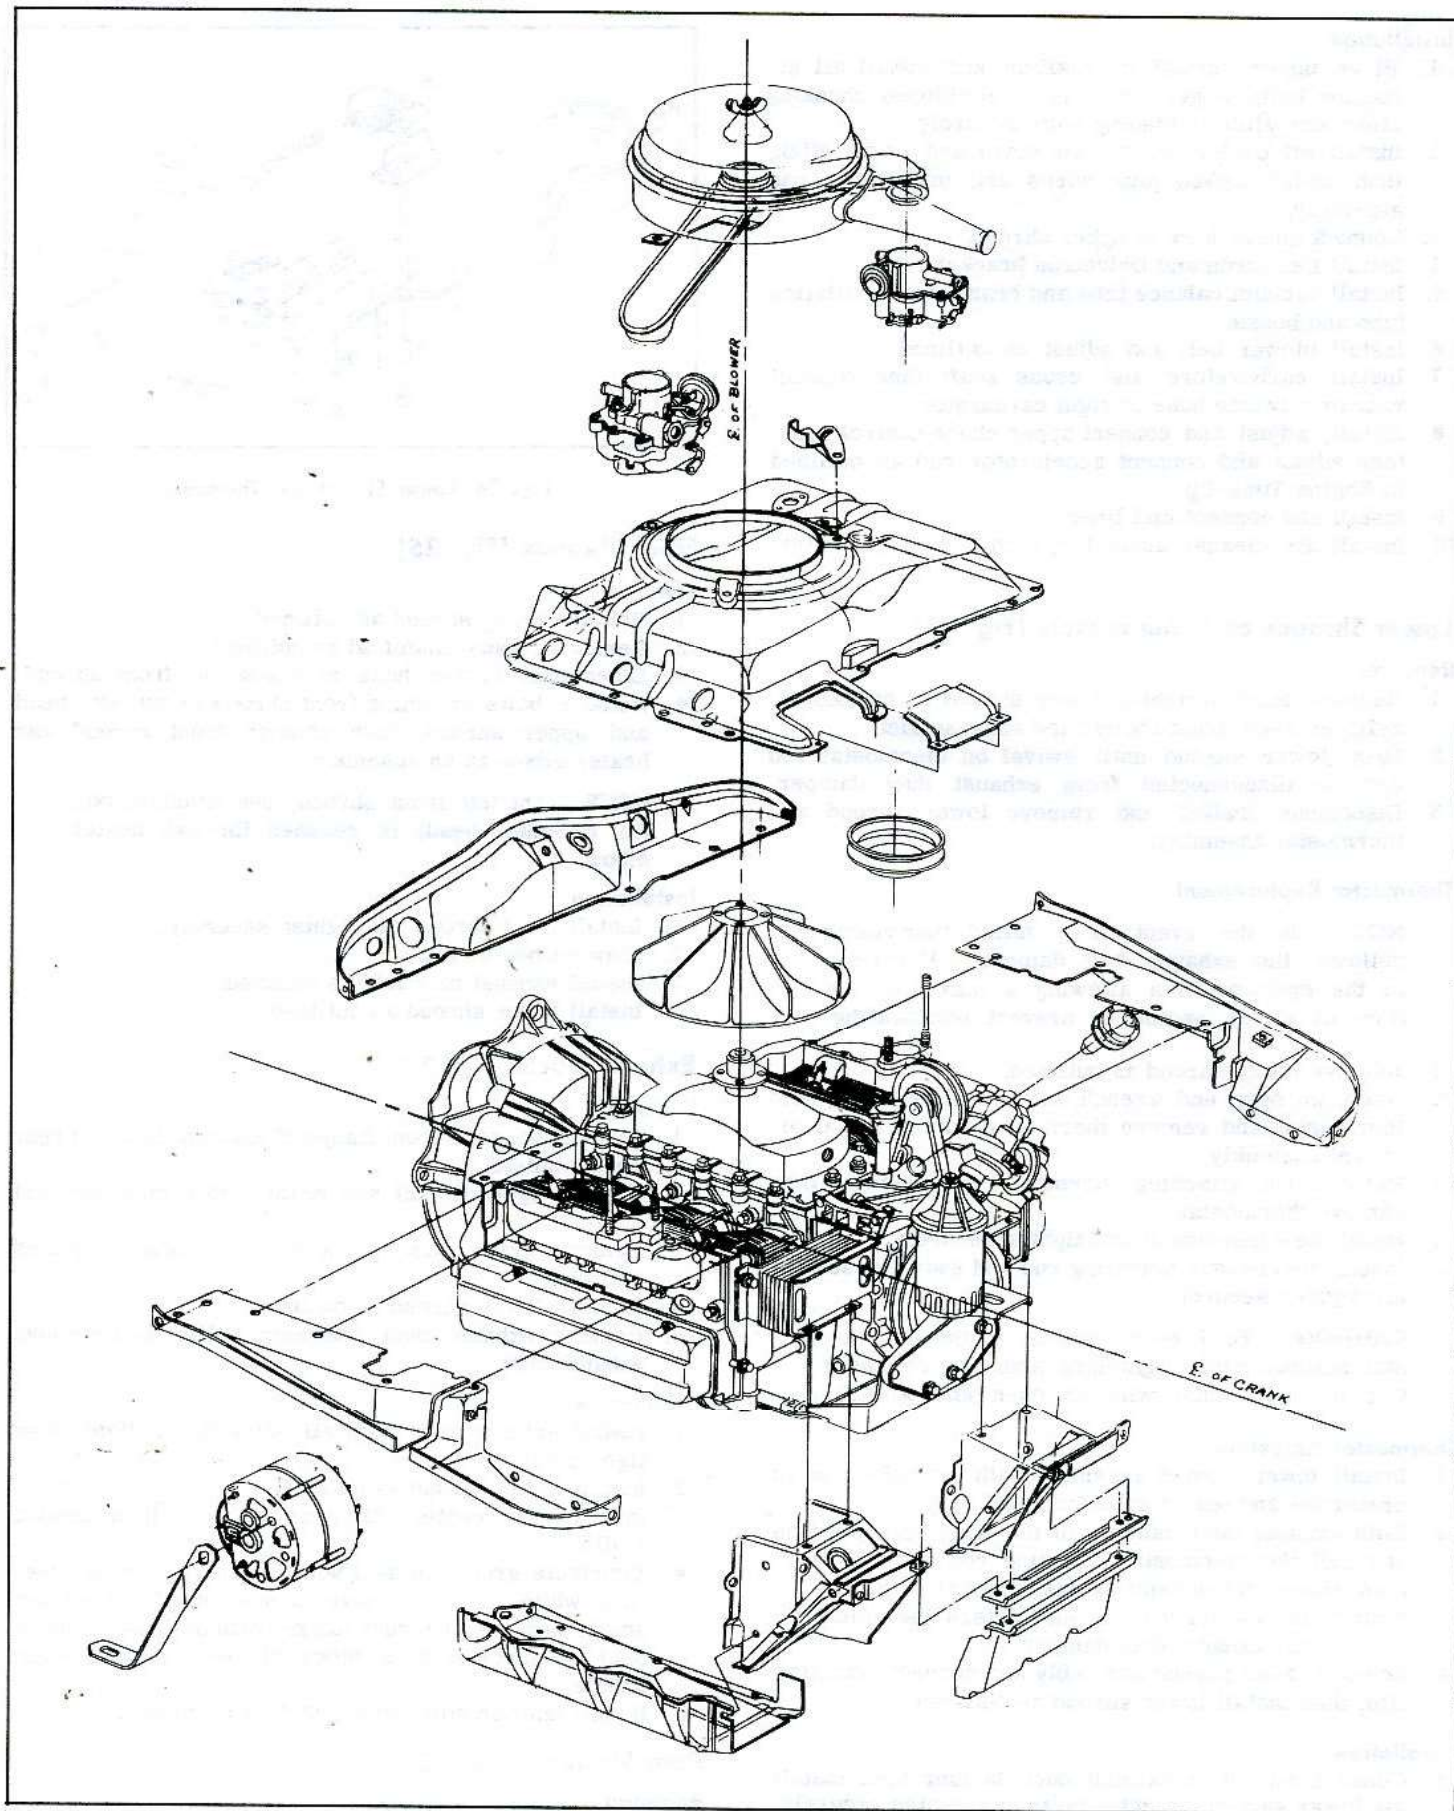

Fig. 25—Engine Sheet Metal—Exploded View
**Front Shrouds (Fig. 25)****Removal**
**Exhaust Ducts (Fig. 25)****Removal**
**Rear Shrouds (Fig. 25)****Removal**